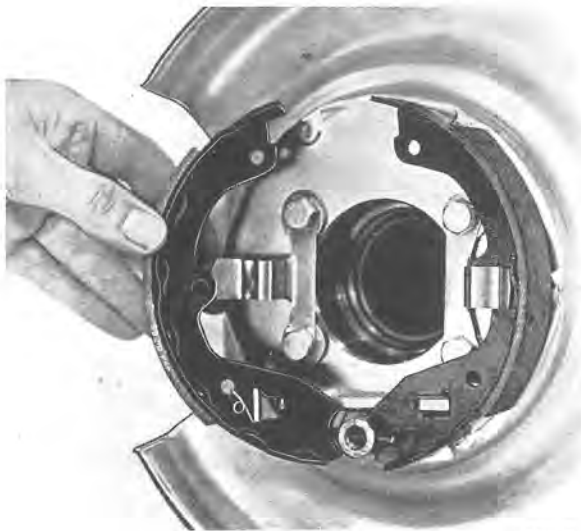
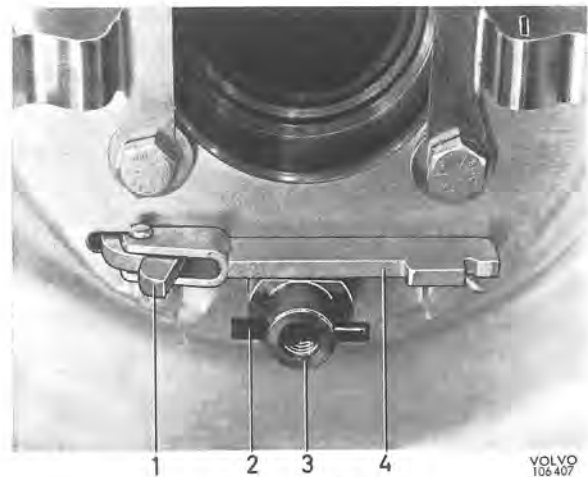
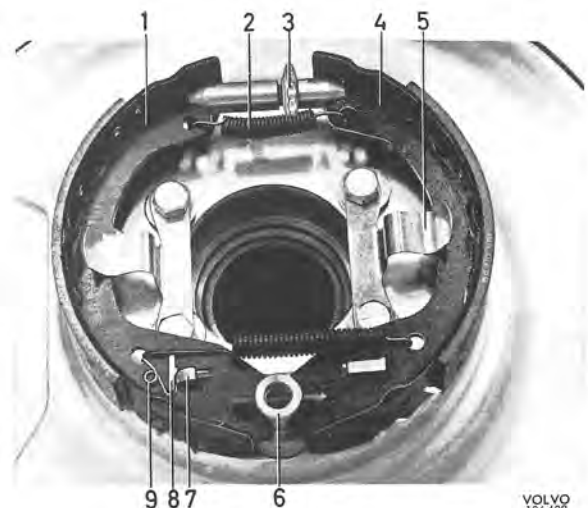

Fig. 5-84. Removing the brake shoes
Fig. 5-85. Brake parts
Fig. 5-86. Parking brake
- Remove both the return springs and the adjusting device. Lift forward the shoes, see Fig. 5-84. Manoeuvring the links will facilitate removal.
3. Check that the lever and anchor bolt parts are correctly fitted, see Fig. 5-85. Check that the washer (8, Fig. 5-86) and the spring (9) are in position in the primary shoe. Fit the brake shoes, see Fig. 5-84. The shorter sleeve on the adjusting device should be turned forwards on the right-hand side and backwards on the left-hand side, see Fig. 5-86.